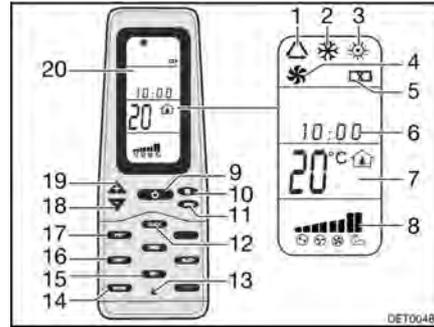

Fig. 169 Remote control
- Press the ON/OFF button (Fig. 169,9).
- Press the "Mode" button (Fig. 169,11) as often as required until the required mode (Fig. 169,1, 2, 3 or 4) is indicated on the display (Fig. 169,20).
- Use the "+" (Fig. 169,19) and "-" (Fig. 169,18) buttons to set the desired temperature.
- Use the fan speed button (Fig. 169,10) to select the desired fan level.